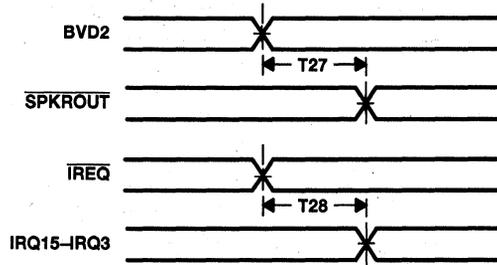

Figure 9. Miscellaneous PC Card Delay Times
**switching characteristics over recommended ranges of supply voltage and operating free-air temperature, miscellaneous (see Figure 9)**